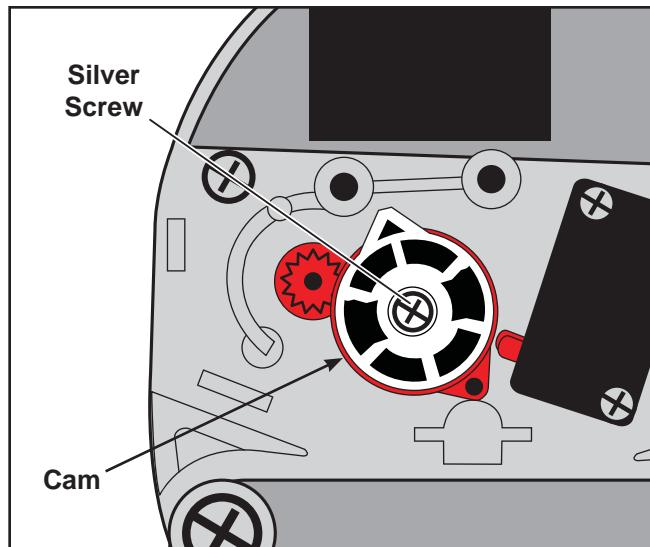

Figure 5
- A. Using a #2 Phillips screwdriver, remove the silver screw securing the cam to the elevation motor. See Figure 5.